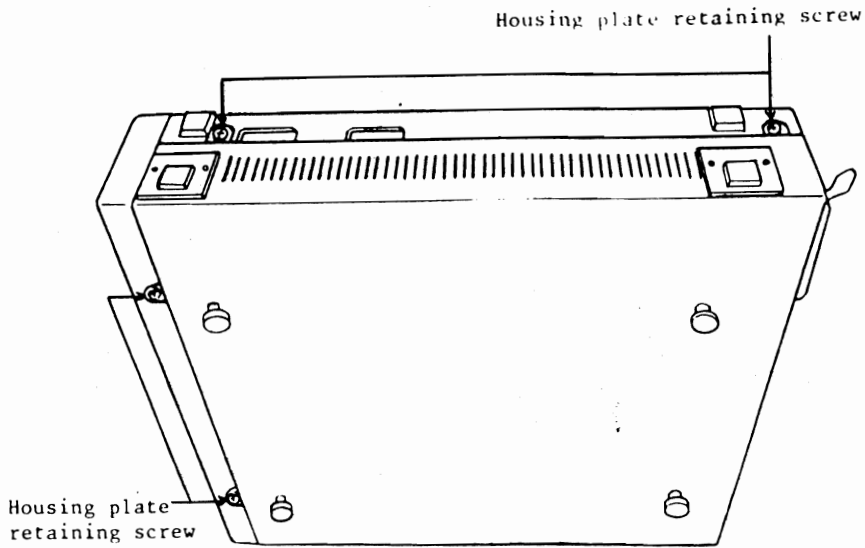

Fig. 3.3.3
- ① Insert shipping sheet 5" into MDD-220.
- ② Loosen two retaining screws (Fig. 3.3.3) at the left of front housing plate.
- ③ Remove one retaining screw from rear cover, and two retaining screws (Fig. 3.3.3) from bottom plate.